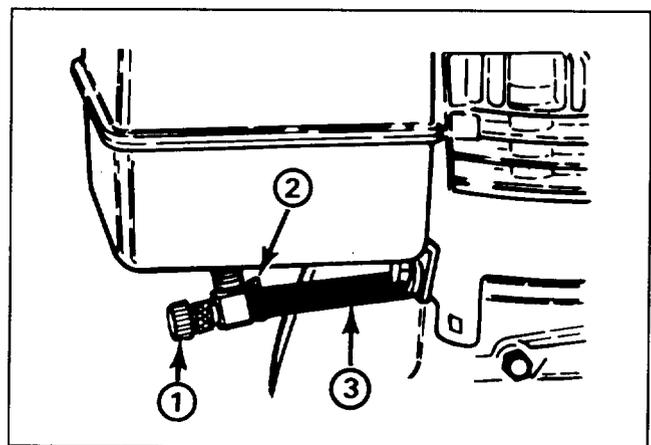

Figure 20
1. Close fuel shut-off valve located under engine (Fig. 20).